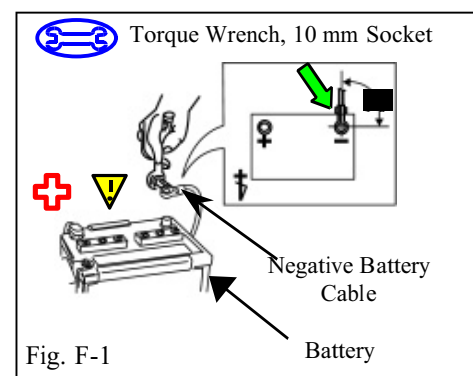

Fig. F-1
1. Reconnect the negative battery cable. (Fig. F-1)